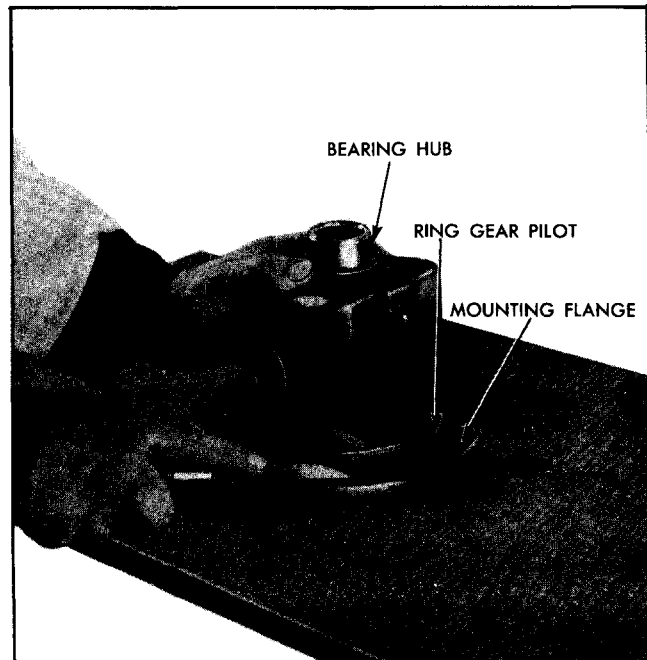

Fig. 4-46 Removing Burrs and Nicks From Mounting Flange
8. Inspect case, paying particular attention to ring gear mounting flange, ring gear pilot, and side bearing hubs. Remove nicks or burrs with mill file (Fig. 4-46).